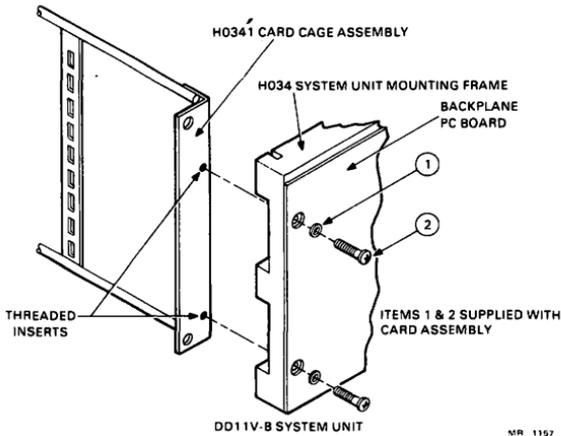

Figure 4 H0341 Card Assembly Installation
The card assembly provides nylon guides which help to guide and support the modules installed in the system unit. The H0341 card assembly is supplied with the hardware necessary to mount to the H034 mounting frame. Figure 4 shows the method of assembly. Two screws (item 2) and two washers (item 1) are inserted through the clearance holes of the PC board and H034 mounting frame and into the two threaded inserts on each bracket of the card assembly.